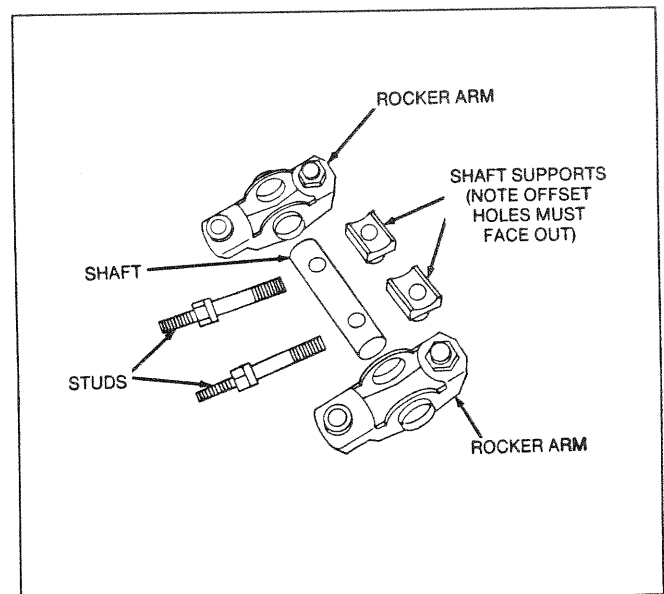

Figure 97. Assembling the Rocker Arms
NOTE: Rocker shaft support holes are offset. Install with holes toward ends of rocker shaft. See Figure 97.
- Assemble the rocker arms, shaft, supports, and studs. Install onto cylinder head (Figures 97 and 98).